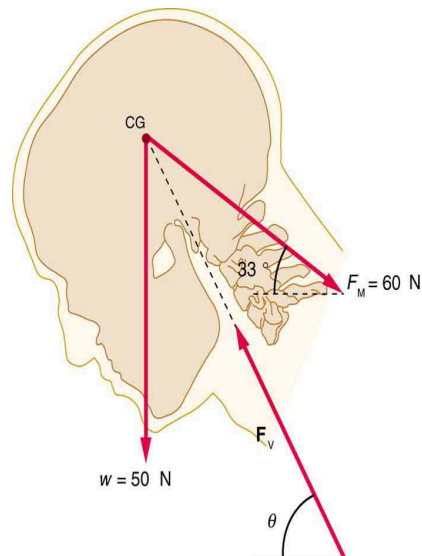

Figure 9.39
30. A person working at a drafting board may hold her head as shown in Figure 9.39, requiring muscle action to support the head. The three major acting forces are shown. Calculate the direction and magnitude of the force supplied by the upper vertebrae F_v to hold the head stationary, assuming that this force acts along a line through the center of mass as do the weight and muscle force.